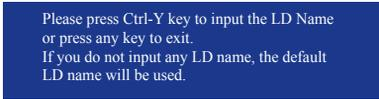

Figure 1
5. Press <Ctrl>+<Y> keys to save the information. The message in Figure 1 will appear. Press <Ctrl>+<Y> to input the array name. If you do not input the array name, the default array name will be used.